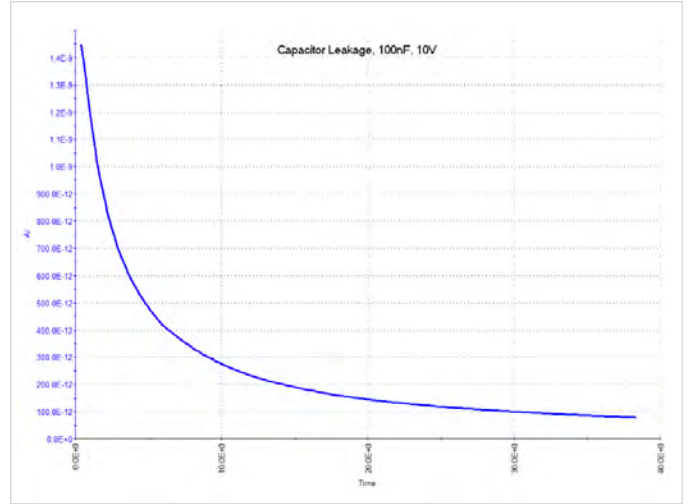

FIGURE 15. Leakage current vs time of 100nF capacitor measured with the 4201-SMU.
**Figure 15** shows a graph of leakage current vs. time of a 100nF capacitor measured with the 4201-SMU. Because of the increased maximum load capacitance specification, the 4201-SMU and 4211-SMU are more stable when measuring capacitor leakage, however the need for the series diode will